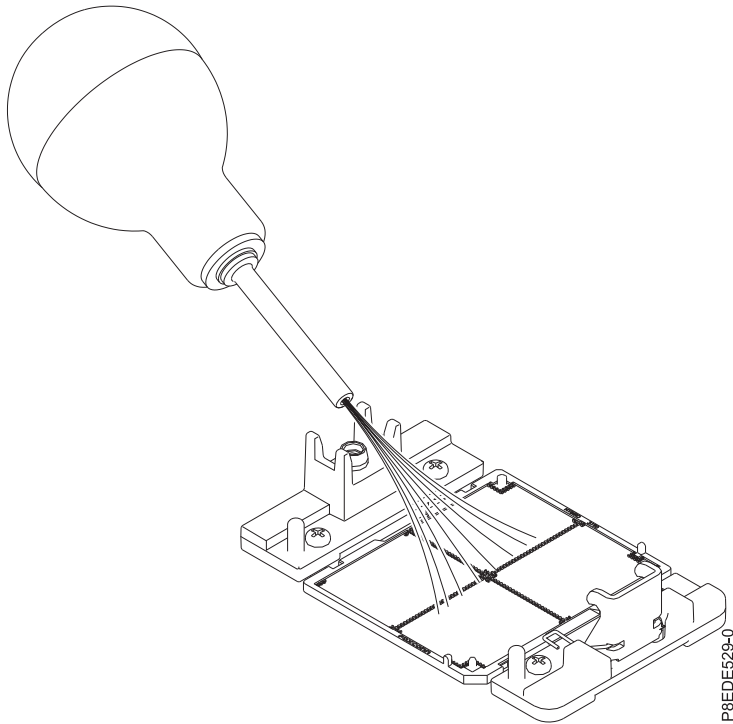

Figure 91. Removing dust and debris from the system processor socket
- a. If dust or debris is present on the system processor socket, use the supplied air pump (part number 45D2645) to clean the socket. Blow small bursts of air from the center toward the sides of the socket, as shown Figure 91 on page 89.